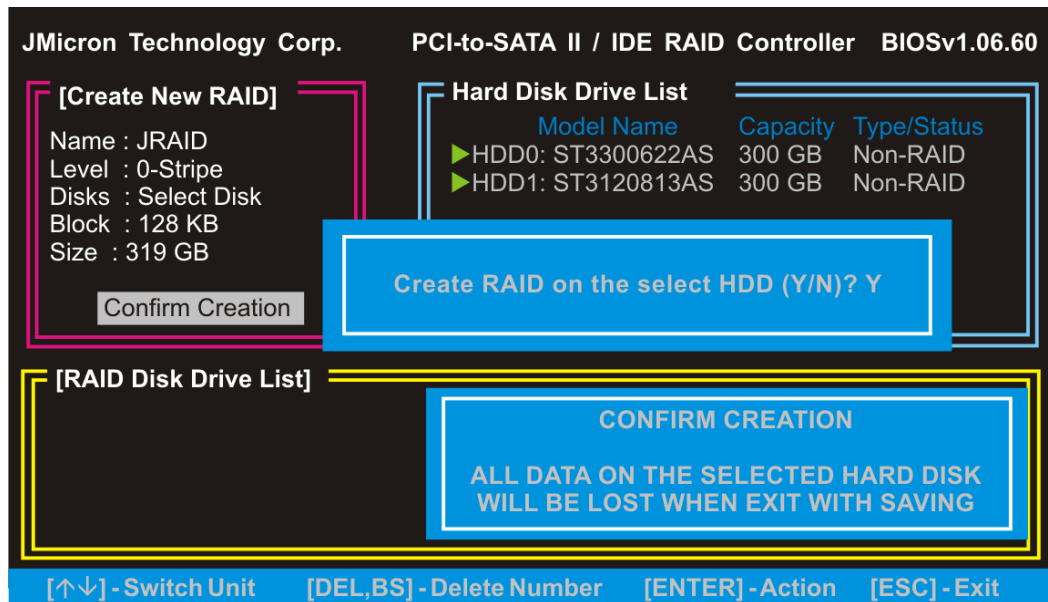

Figure E-9: Confirm creation
Step 7: After the **ENTER** key is pressed, the **Confirm Creation** item is highlighted, and a confirmation message appears (**Figure E-9**). Press **Y** to confirm the creation of the RAID volume.